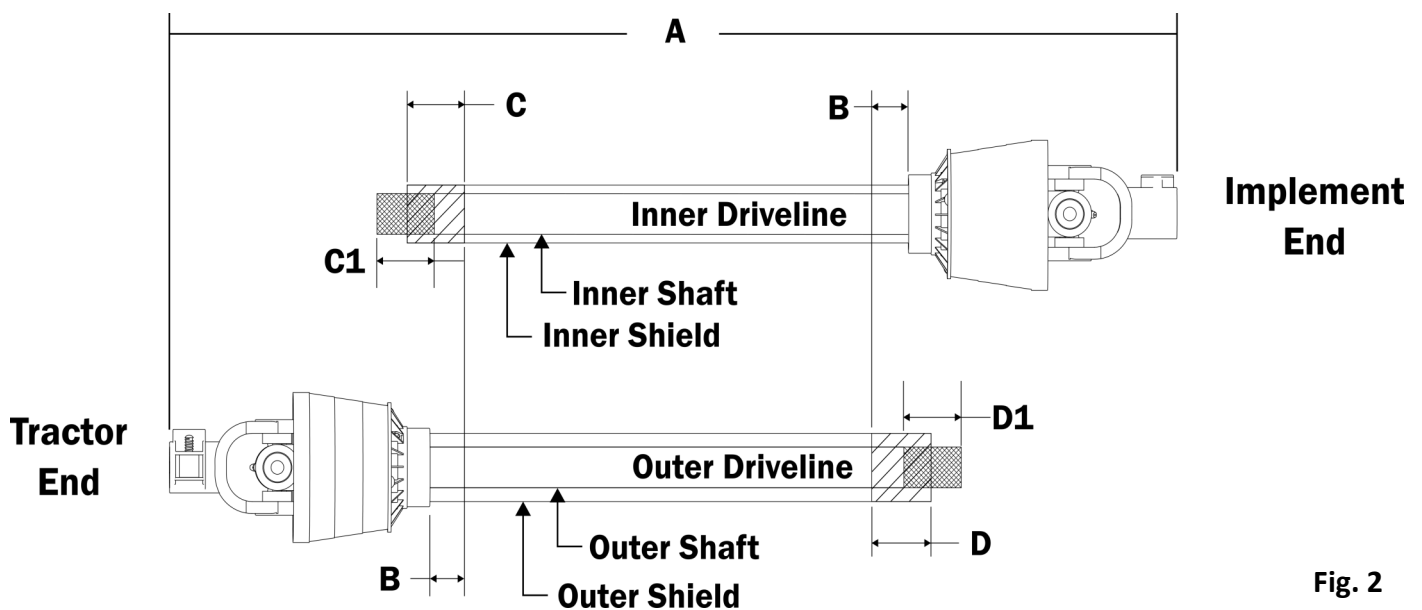

Fig. 2
(Refer to Fig. 2)
3. With the drivelines parallel to one another, measure 1" (dim. 'B') back from the outer PTO Driveline shield (see fig. 2) and make a mark on the inner PTO Driveline.
4. Measure 1" (dim 'B') back from the inner PTO Driveline shield (see fig. 2) and make a mark on the outer PTO Driveline.